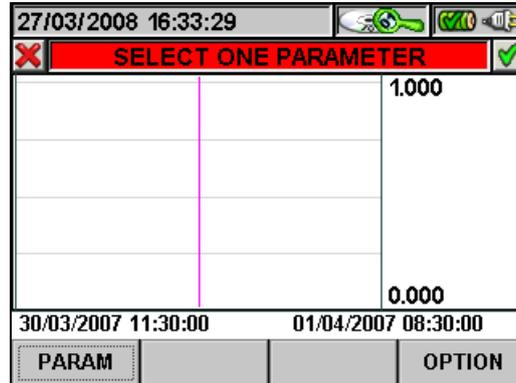

Fig. 118: Selecting a parameter
- The **ESC** key (or smart icon ) to exit the function and go back to the “Selecting a parameter” page (Fig. 118).
3. Press the **ESC** key (or the smart icon ) to exit the function and go back to the “Selecting a parameter” page (Fig. 118).